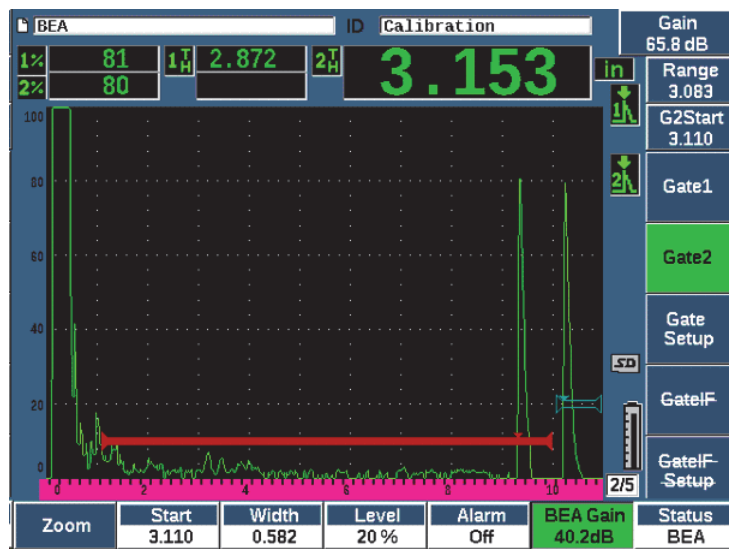

Figure 11-32 Adjusting back wall gain
- 2. Manually adjust the gain or press 2ND F, (AUTO XX%) to automatically adjust the echo in the BEA gate to the reference height (XX%) (see Figure 11-32 on page 282).